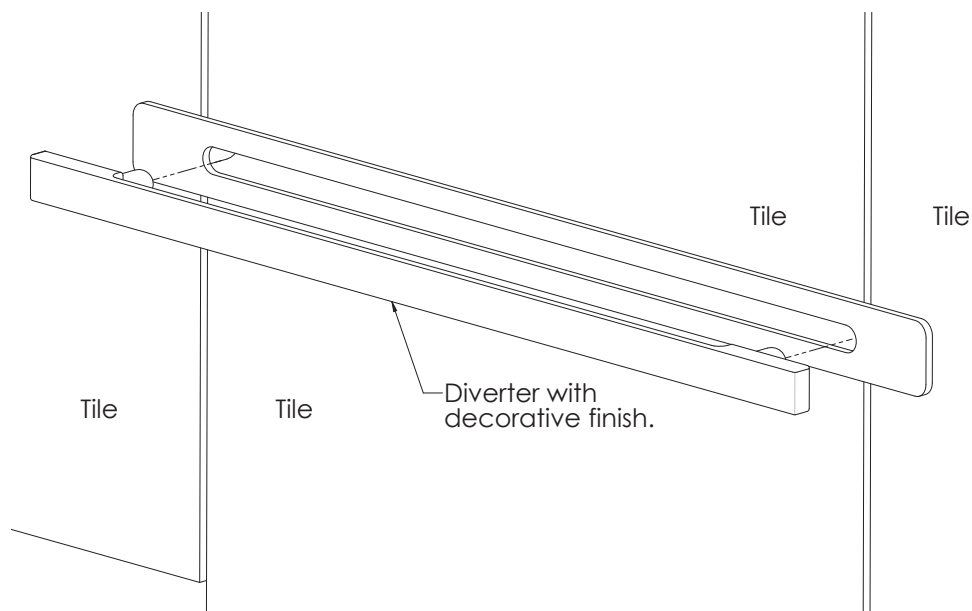

Figure 14
- Insert Finished Diverter into steam outlet of Linear Steam Head. (see fig. 14).